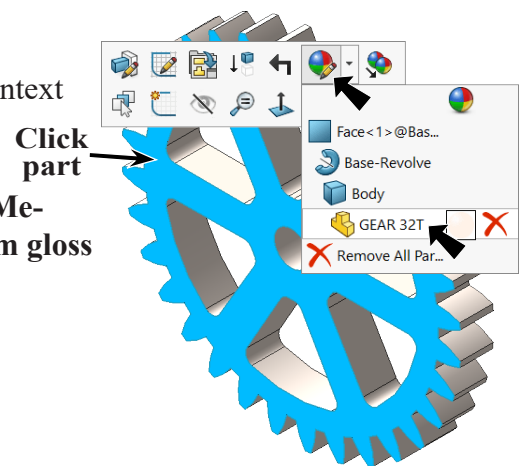

Fig. 21
Step 1. Click part, click **Appearance Callout**  on the context toolbar and click **GEAR 32T** , Fig. 21.